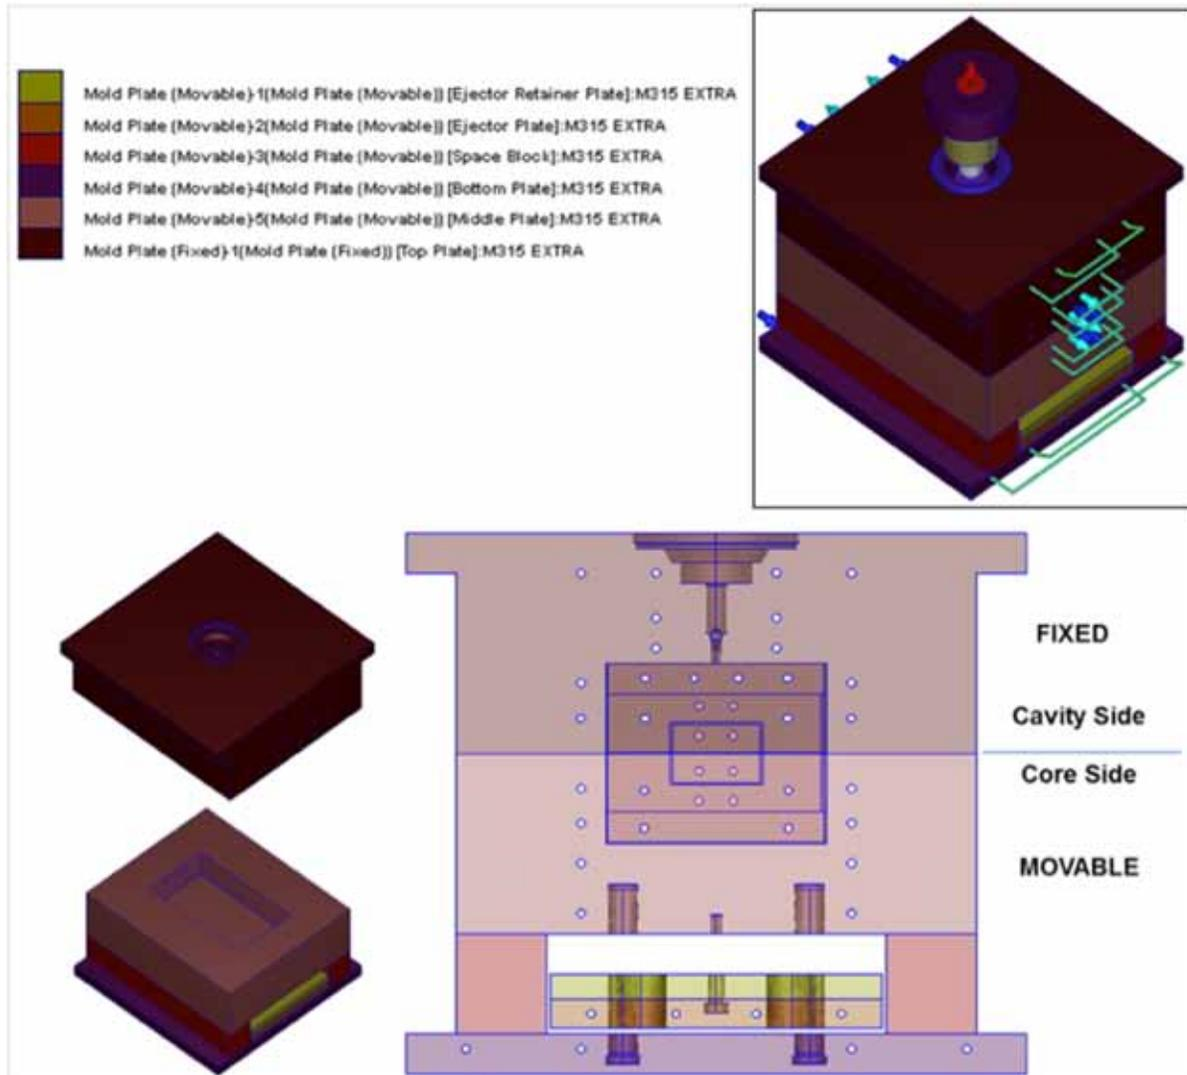

Figure 1: The settings of complete mold and mold plate attributes.
2. Import the simplified model to Moldex3D Designer BLM and set attributes: Set the attributes of the part, runner, cooling channels and mold inserts respectively, and utilize the new mold plate attributes to set the fixed and movable mold plates. It can show or hide the items with set attributes (**Figure 1**).